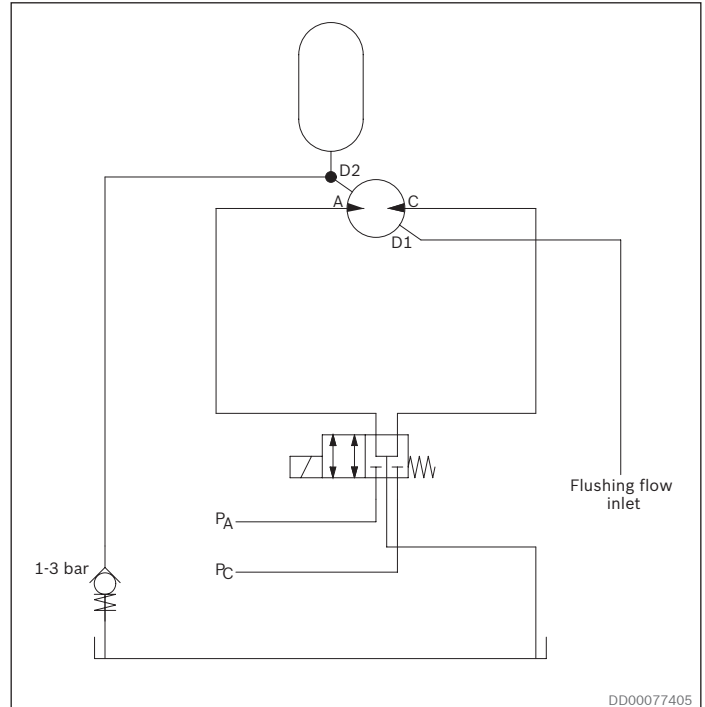
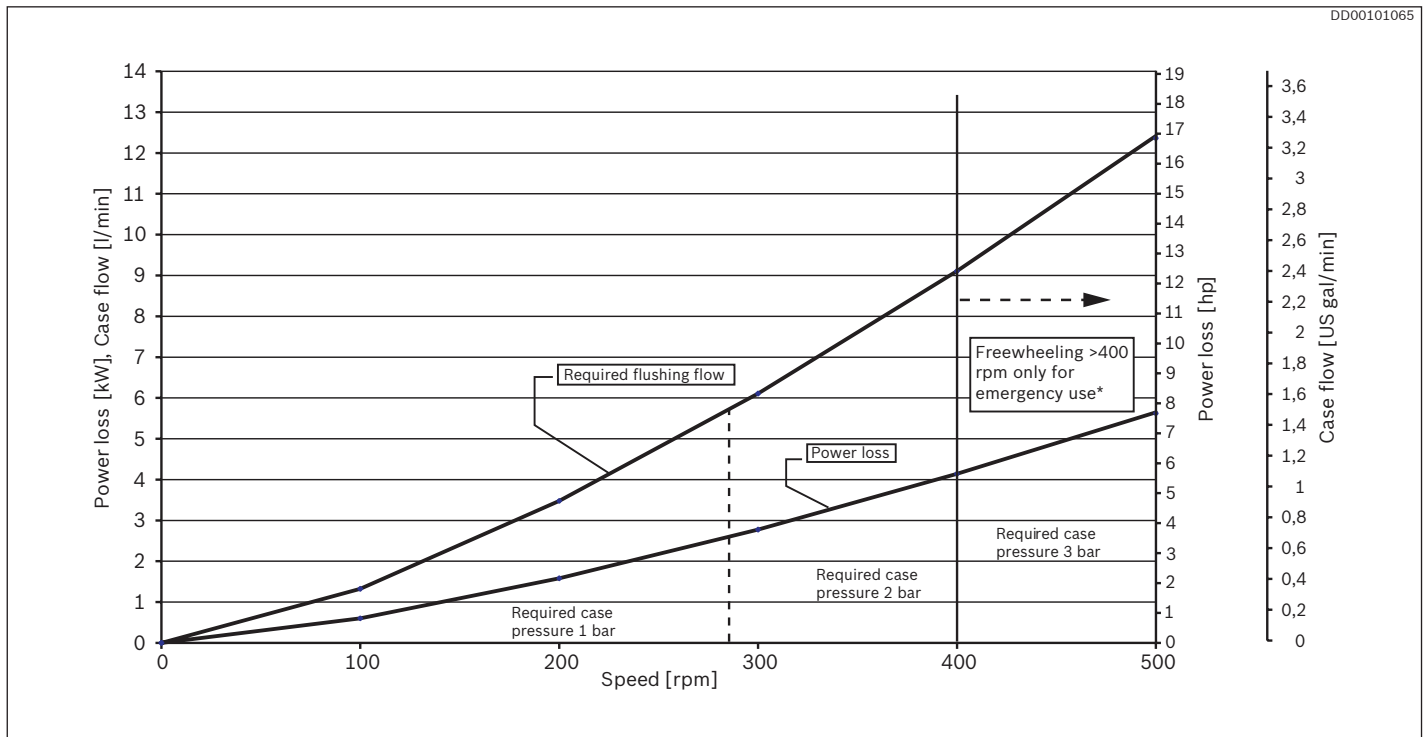

Fig. 46: Schematic principle freewheeling.
Fig. 47: Power loss freewheeling, oil viscosity 40 cSt (187 SSU)
The basic function of the freewheeling is to have the motor housing (via drain ports D1, D2 or D3) lightly pressurized (see Fig. 47) while main ports A and C are without restriction drained directly to the fluid reservoir. See Fig. 46. The case pressure introduced in the normal drain connection will then act on the outer surface of each piston assembly pressing them towards the motor centre.
3. An adequate pressure introduced into the drain ports of the motor. See Fig. 47 (required case pressure).
- The motor case must be pressurized all the time when the motor is in freewheeling mode, see *Fig. 47*.
- The motor case must be flushed all the time when the motor is in freewheeling mode, see *Fig. 47*.
An accumulator can be added into the circuit to shorten the time to retract all the pistons completely, see *Fig. 46*.
An accumulator can also be added into the circuit to reduce the pressure spikes in the motor case when the pistons are extracted, see *Fig. 46*.
Even if the freewheeling operation takes place with lowest possible friction in the main bearings and with no flow losses in the main ports of the motor, a powerloss must take place in the motor case due to viscous friction between moving and fixed parts. This powerloss is expressed in Fig. 47.
Case flushing is required to prevent overheating, see diagram Fig. 47
In order to accomplish proper freewheeling, a case pressure according to Fig. 47 has to be maintained.